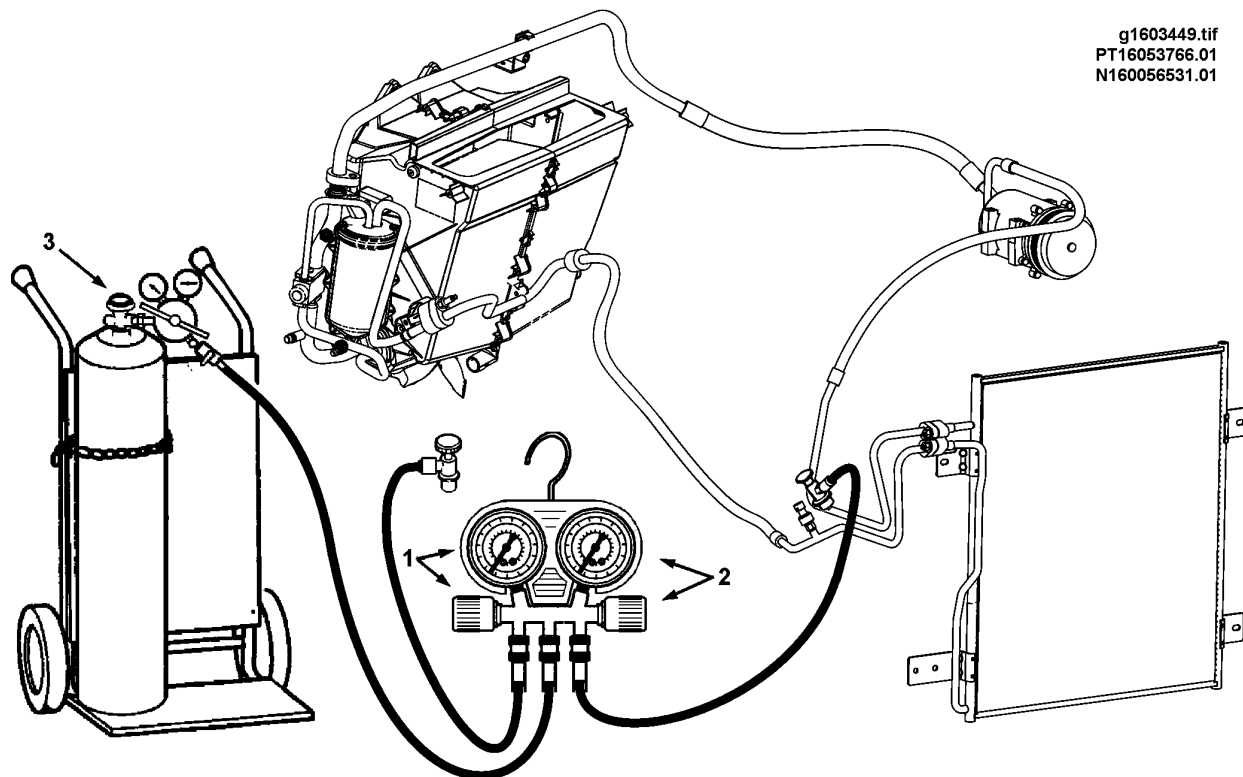

Figure 49 Using Nitrogen to Pressurize the A/C System
1. Connect a manifold gauge set to the a/c system. Refer to FIGURE 49.